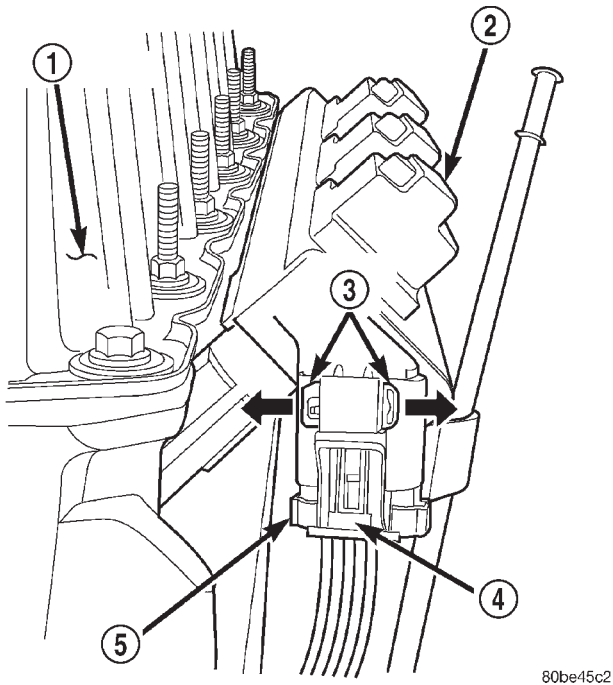

Fig. 6 Ignition Coil—4.0L Engine
(5) 4.0L Engine: Inspect ignition coil connection (Fig. 6).